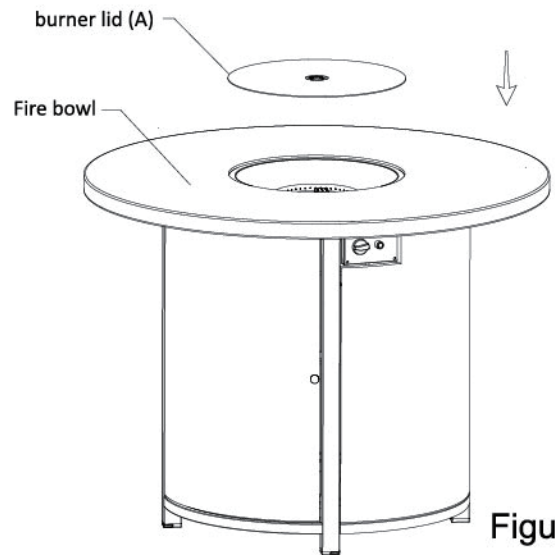

Figure 3
2. Cover the burner lid(A) on the fire bowl(see Figure 3).